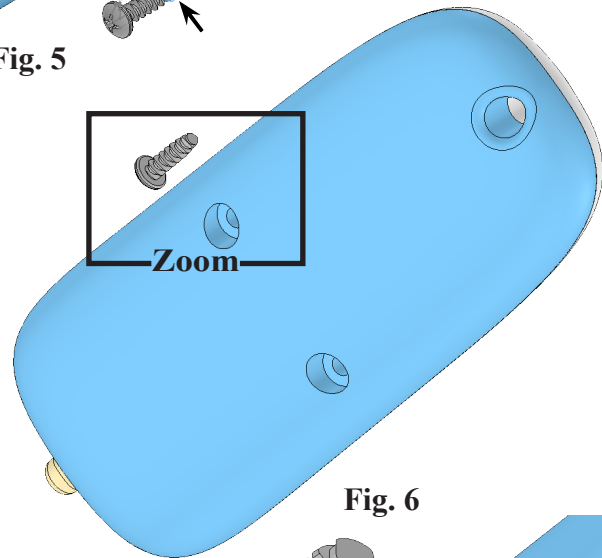

Fig. 6
Step 1. Rotate view to view **inside screw boss hole** and **Screw** and zoom in, **Fig. 6**.